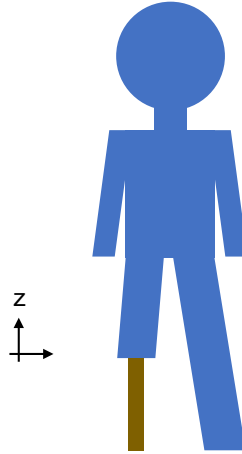

Figure 5: Illustration of the unfortunate soldier with his wooden leg.
- Your first design is to attach a simple wooden stick to his leg (see figure 5). He weighs $m_2 = 80\text{ kg}$ but used to weigh $m_1 = 88\text{ kg}$ before his injury. He is still $s = 1.75\text{ m}$ tall. The diameter of the stick is $d = 2\text{ cm}$. Calculate the stress σ_z in the contact area between the leg and the stick.